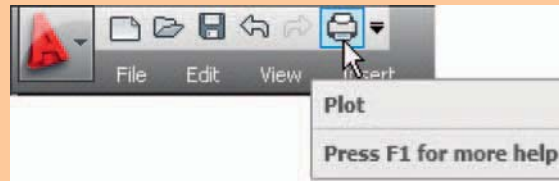

Fig. 15.44 The **Plot** icon in the **Quick Access** toolbar
1. With a drawing to be printed or plotted on screen *click* the **Plot** tool icon in the **Quick Access** toolbar (Fig. 15.44).